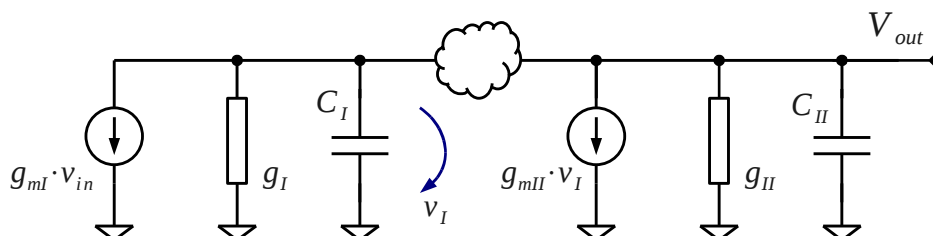
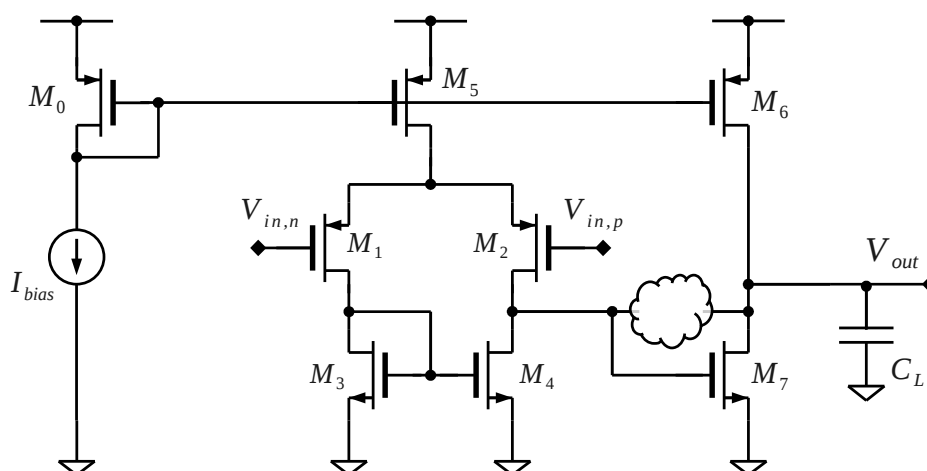

Figure 5.3.1: The small-signal model of a two-stage operational transconductance amplifier.
Figure 5.3.2: A two-stage OP/OTA with compensation circuit (the cloud).
An equivalent small-signal model of the OP in Figure 5.3.2 is shown in Figure 5.3.1.
Consider the two-stage OTA in Figure 5.3.2 with the compensation circuit removed.
- What could you do to make the circuit in Figure 5.3.2 become more like an ideal OP in terms of output resistance?
Consider the two-stage amplifier shown in Figure 5.3.2 and use the results from Exercise 5.4 as well.